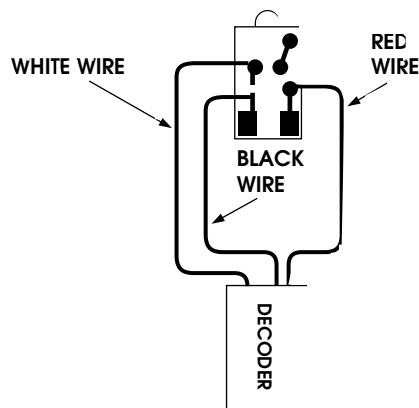

Fig. 2
- Lay the light board out in front of you, parts side down as in Fig. 2. With a sharp hobby knife make a cut in the circuit trace as shown (Fig. 2).